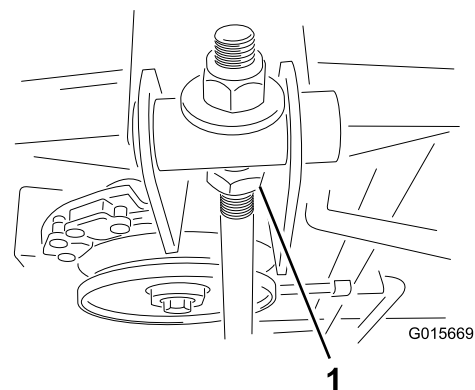

Figure 39
- Loosen the jam nut (Figure 39).